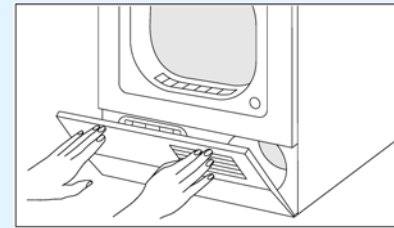

Figure 9.
10. Close the heat exchanger/inlet panel by pressing firmly on both the upper left and right hand sides, as shown in Figure 9, until it snaps into place.